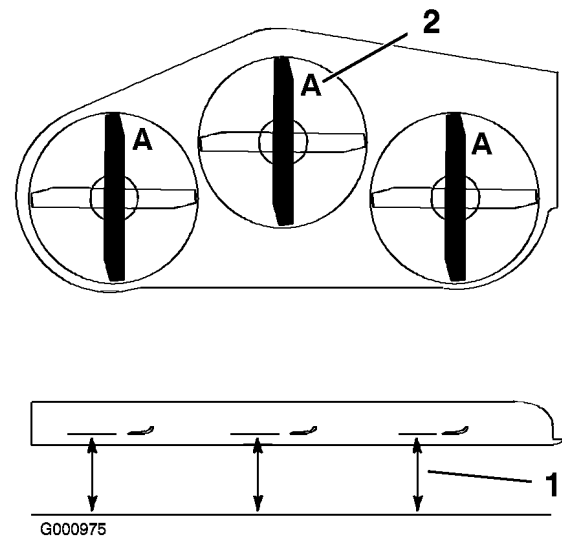

Figure 52
3. Rotate the blades until the ends face forward and backward (Figure 52). Measure from a level surface to the cutting edge, position A, of the blades (Figure 52). Note this dimension.